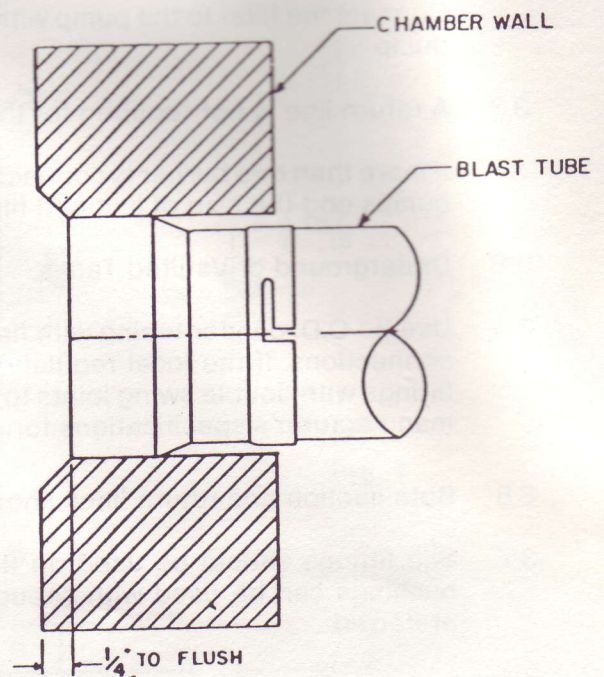

Fig. 2
- 5.4 The end of the air tube should be 1/4" back to flush with inside of the chamber wall. Improper insertion will distort the fire. See Fig. 2.